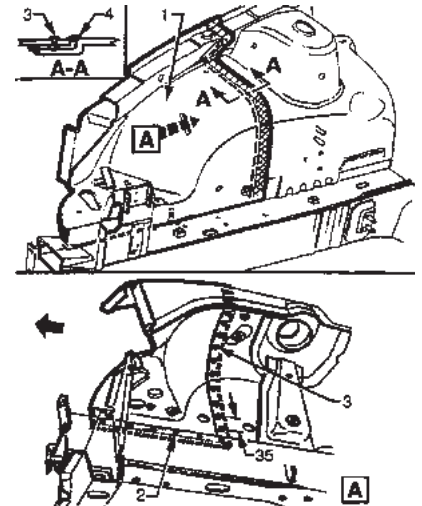

Figure 5. Inner guard particle replacement.
Prepare the replacement inner guard panel (as shown in figure 5) allowing for a lap joint. Drill 8mm holes 35mm apart (3). O.E.M. spacing should be duplicated at the inner guard rail joint (2). Prepare any bare steel and treat with weld through primer.
Clamp prepared inner guard into position and check fit up of other panels. Then plug weld pre-drilled holes and fully fillet weld the lap joint on the engine compartment side, as shown in figure 5.